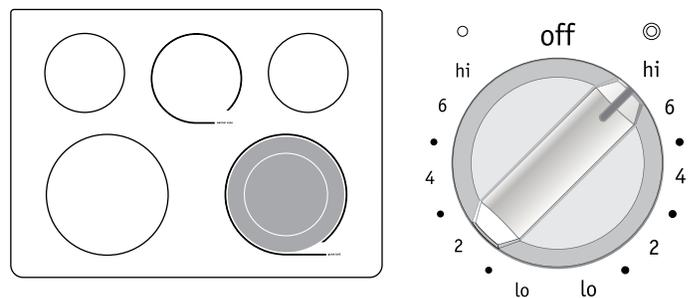
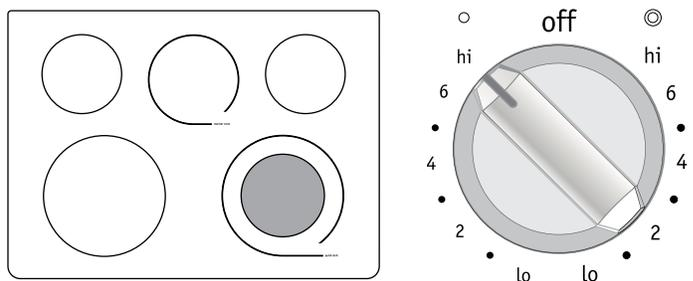

Figure 1 - Heating with both portion\*
Figure 2 - Heating with inner (small) portion only\*
2. Push in and turn the surface control knob clockwise to begin heating both, the inner and outer portions of the element (Marked double - see figure 1) If only the inner heating portion is needed (marked single - see figure 2) for smaller cookware, push in and turn the knob counterclockwise.